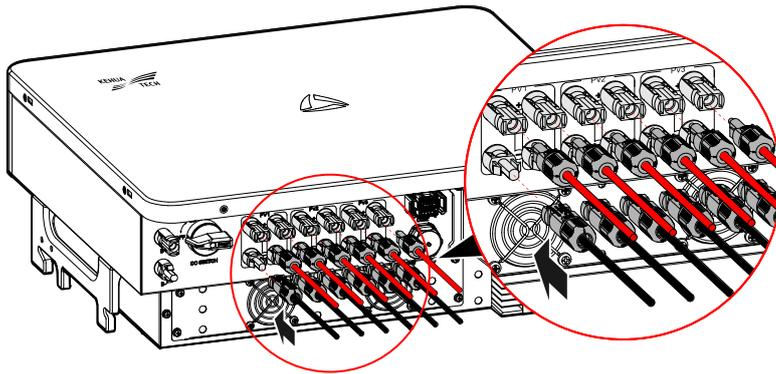
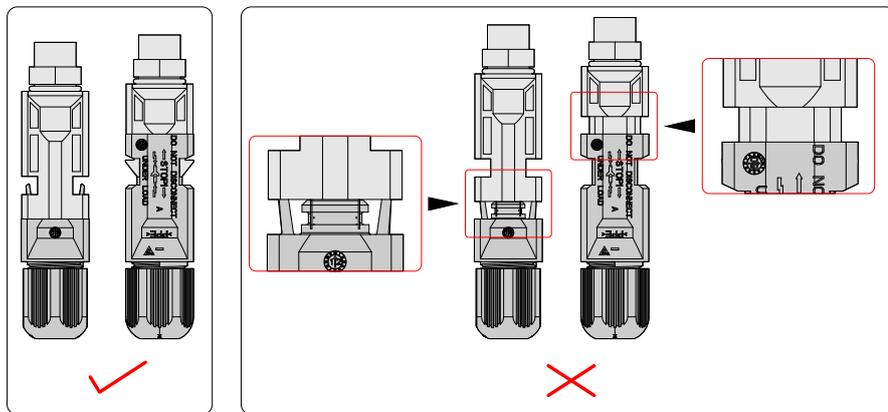

Figure3-23 Connect PV connectors
Figure3-24 PV connector installation method
- Step 6 Insert the positive and negative connectors into the PV "+" and "-" terminals at the bottom of the inverter respectively (as shown in Figure3-23). When you hear a click, it means the connection is good (as shown in Figure3-24).